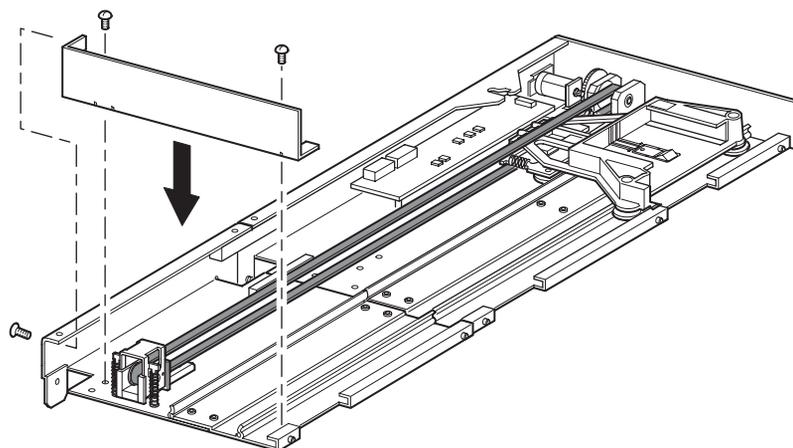

Figure 23: Installing the bottom plate
11. Install the bottom plate that was previously removed from the PTM base unit using the previously removed retaining screws (see Figure 23).